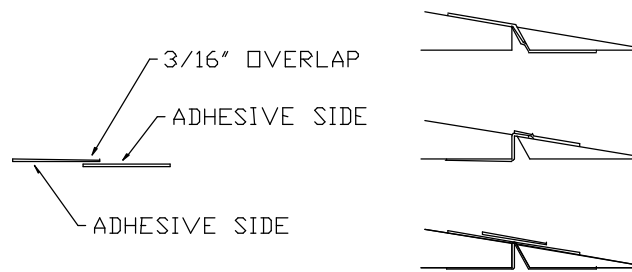

Figure 13
- ❑ Install elevator using under and over hinges. (see figure 13)